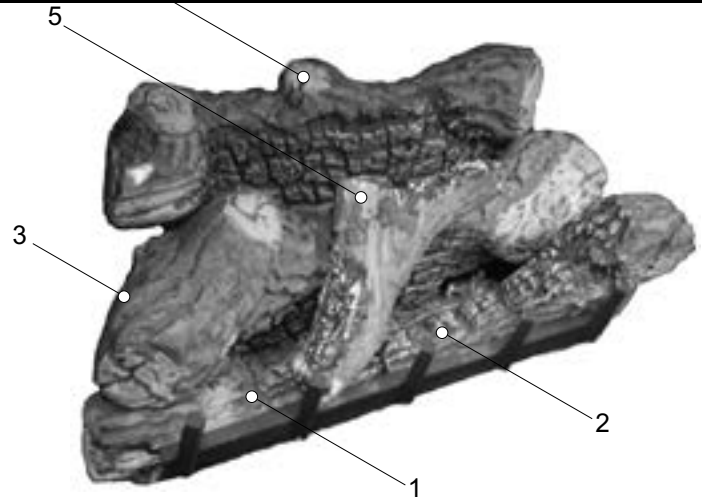
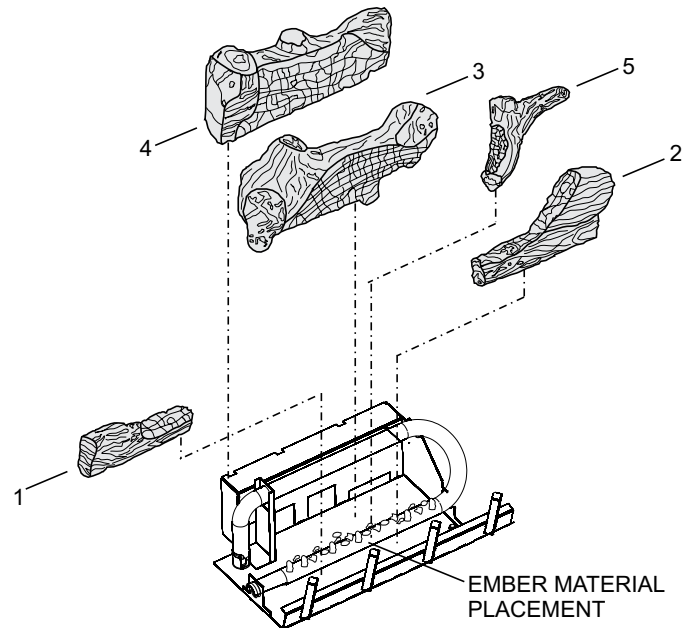

Figure 47
Figure 48
The positioning of the logs is critical to the safe and clean operation of this fireplace. Sooting and other problems may result if the logs are not properly and firmly positioned in the fireplace. Please refer to Figure 46 and Figure 47 and corresponding WARNING when completing following log placement instructions.
10. After all logs are positioned properly, apply Rockwool ember material to the front burner port area. To apply, carefully separate the ember material into small amounts no larger than "dime size" pieces. Fluffed up pieces one layer thick on top of the burner generally works best, and will provide the best ember glow. Do not place ember material more than one layer thick. No more than (1) small packet of ember material (part no. 15999) evenly placed on the burner, is recommended on ADVD32 and ADVD36 models. Using additional ember material will decrease the amount of ember glow effect. Extra ember material should be saved for future ember applications as necessary. See Figure 48.
Attention: Do not use Figure 47 or Figure 48 to order logs. Refer to parts list on page 35 and parts view on page 36 to order logs and/or ember material for your appropriate fireplace model.